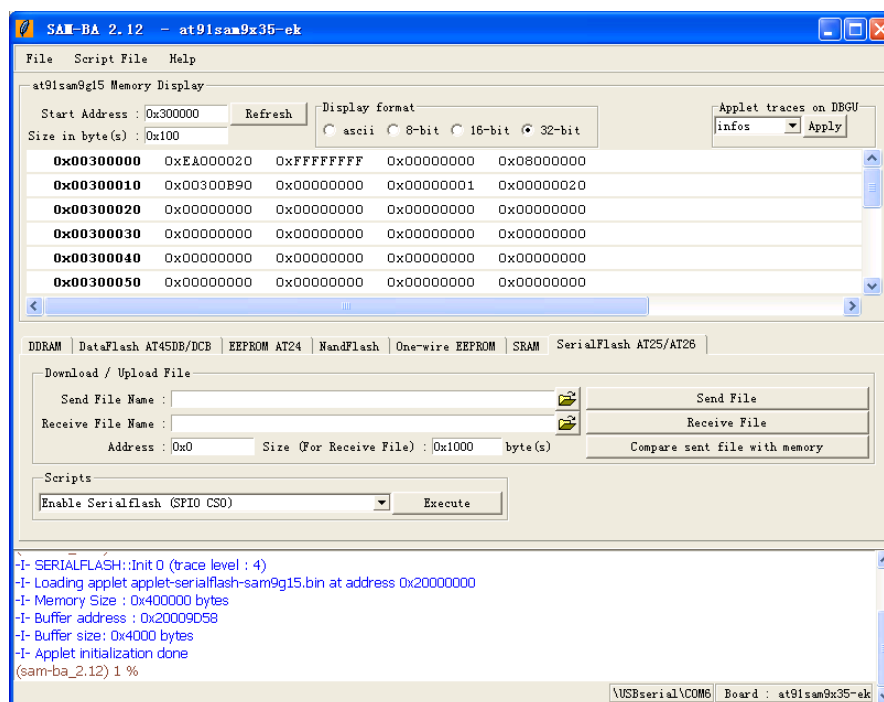

Figure 29: Enabling DataFlash
- 7) Click the **Serial Flash AT25/AT26** tab in the SAM-BA main window as shown below, and select **Enable DataFlash (SPI0 CS0)** in the **Scripts** drop-down menu, and then click **Execute** on the right to start the enabling process. The information box at the bottom of the window will display the details of the process as shown in Figure 29;